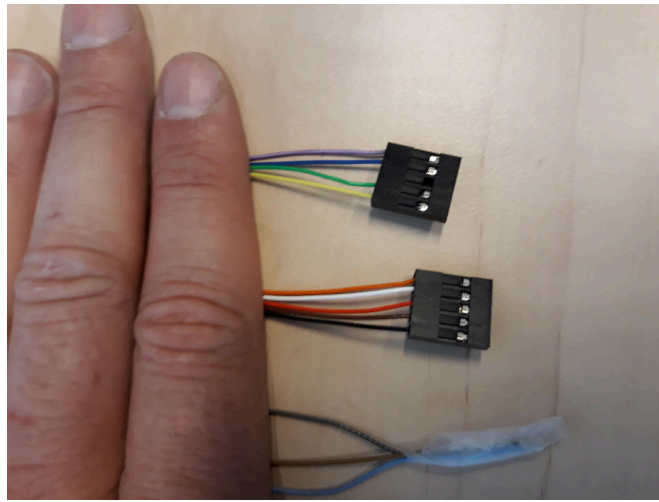
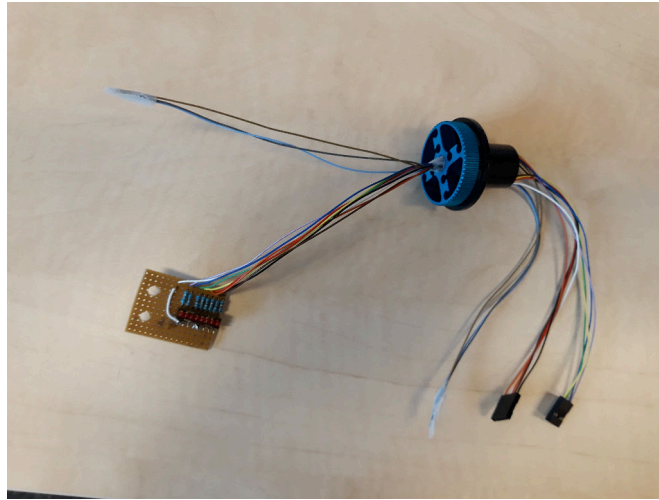

Figure 27: Connectors from the Leds Array Circuit board to the Raspberry Pi
Figure 28: Dupont connectors attached to slipring's outer wires; inner wires connected to led-array circuit board. Some wires are unused.
- A 5 and 6 pins female connector, shown in figure 27 to connect together the 8 output lines for the leds and the GND wire. As you can see in figure 28 these connectors are connected to the outer wires of the slipring. The inner wires of the slipring are soldered to the circuit board for the leds. We didn't use Dupont connectors here, because this circuit board is rotating with 700rpm, so with soldering it is better fixed. And also soldering takes less space and therefore making the circuit board smaller.